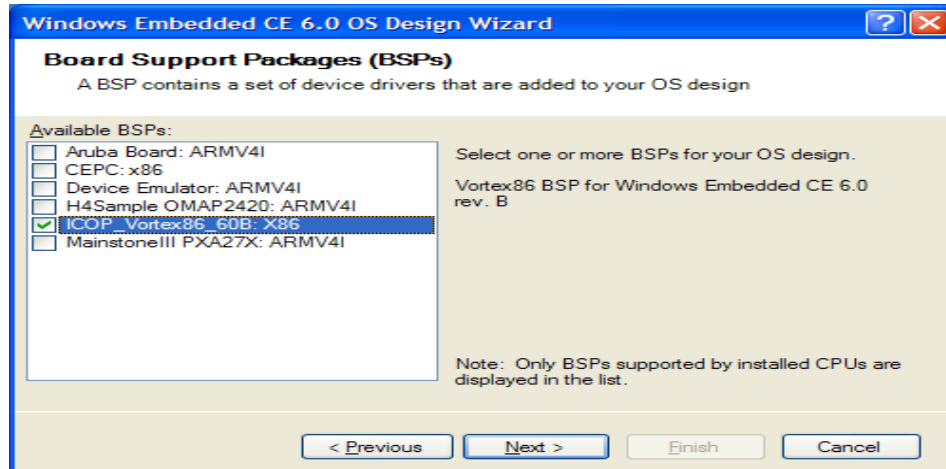

Figure 40. Windows Embedded CE 6.0 Design Wizard
3. In the BSP (Board Support Packages), select ICOP_Vortex86_60B: x86 as shown in figure 40.